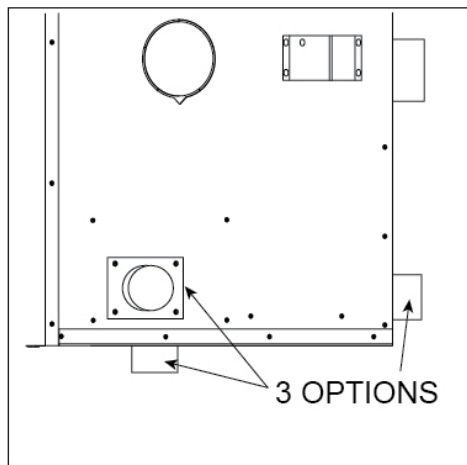
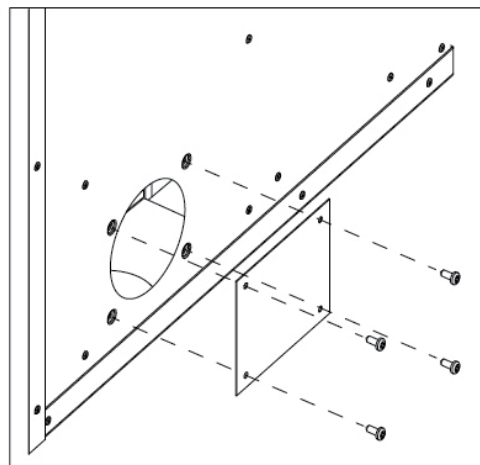

Figure 38
Figure 39
3. Select which air inlet you wish to use figure 38 (you may use more than one) and either remove the cover figure 39 (side inlet) or remove the knock-out (bottom and rear inlets).